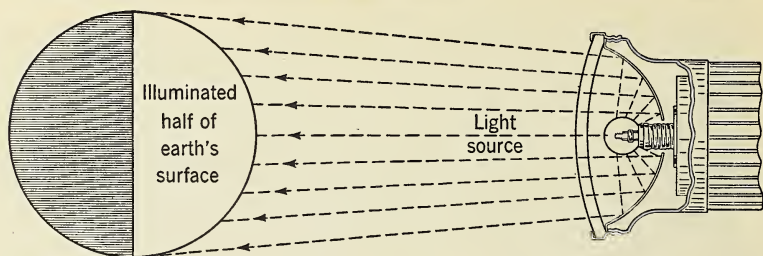

FIG. 3-2. The sun illuminates only a trifle more than half the earth's surface at any one time.
74. Why do we have day and night? On a table we may place an electric lamp with a concave reflector (a reflector which is hollowed like a cave). That will serve as the sun. At the opposite end of the table let us place a globe from six inches to one foot in diameter. That globe will represent the earth. The room should now be darkened. We see at once that about half the globe is lighted at one time. That part of the globe which is turned away from the light (sun) is in darkness (night). [See Fig. 3-2.]